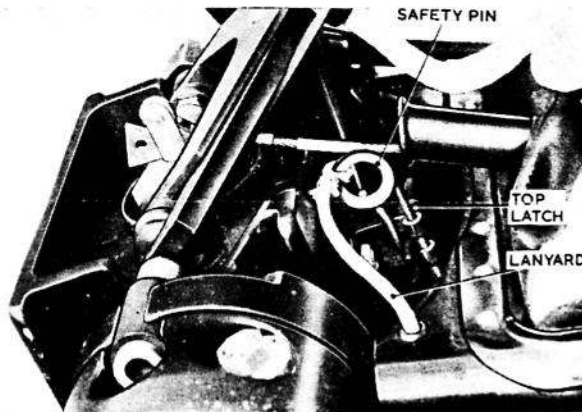

Fig. 5. Top latch safety pin
- (4) Withdraw the safety pin from its housing (fig. 5), release the top latch and lift the seat up the guide rail.